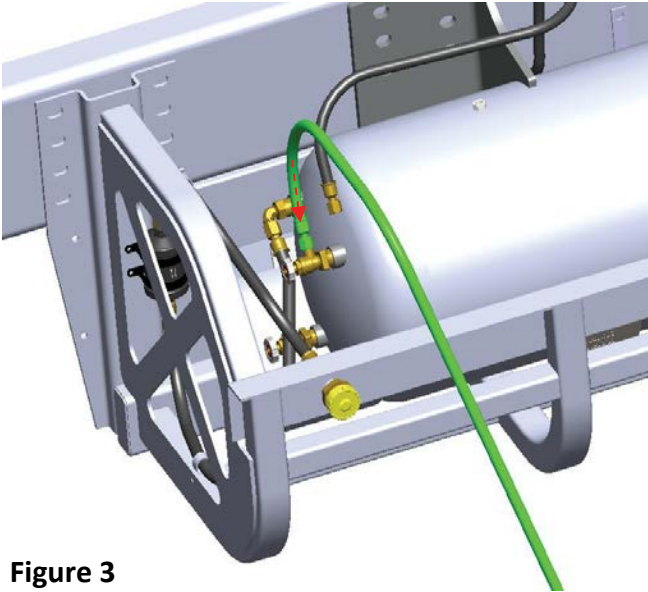

Figure 3
- 3) Connect service evacuation hose to vapor return valve. **Torque: Fully Seated Not Stripped, Not Leaking. Figure 3**